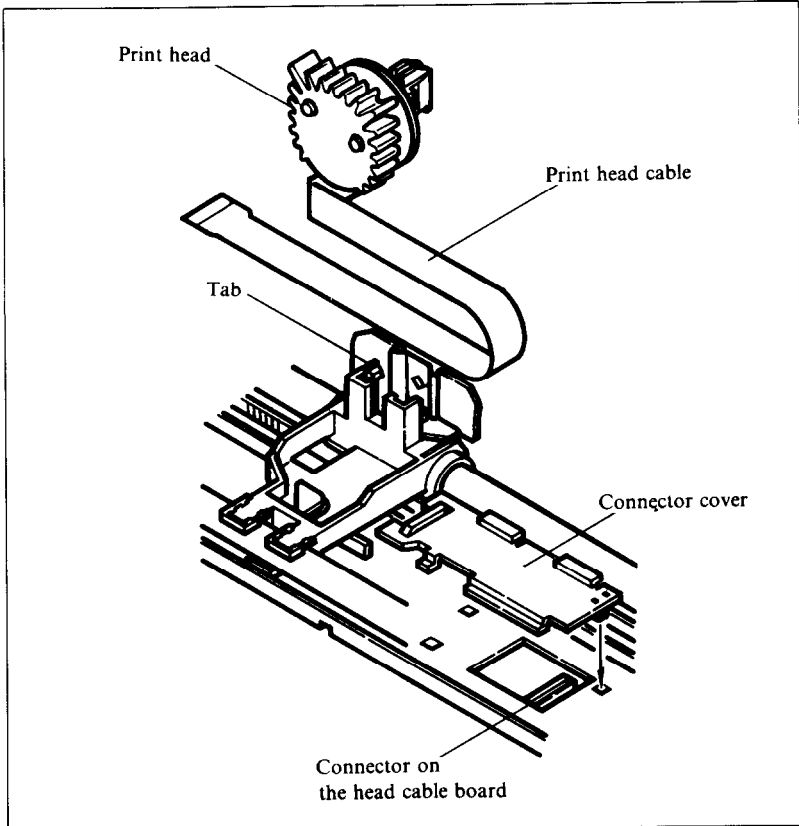

Figure 8-4. Replacement of the print head
2. Move the print head left along the carriage, until you can see the connector cover. Remove the cover from the printer frame; for details, see Figure 8-4. Unplug the print head cable from the head cable board.